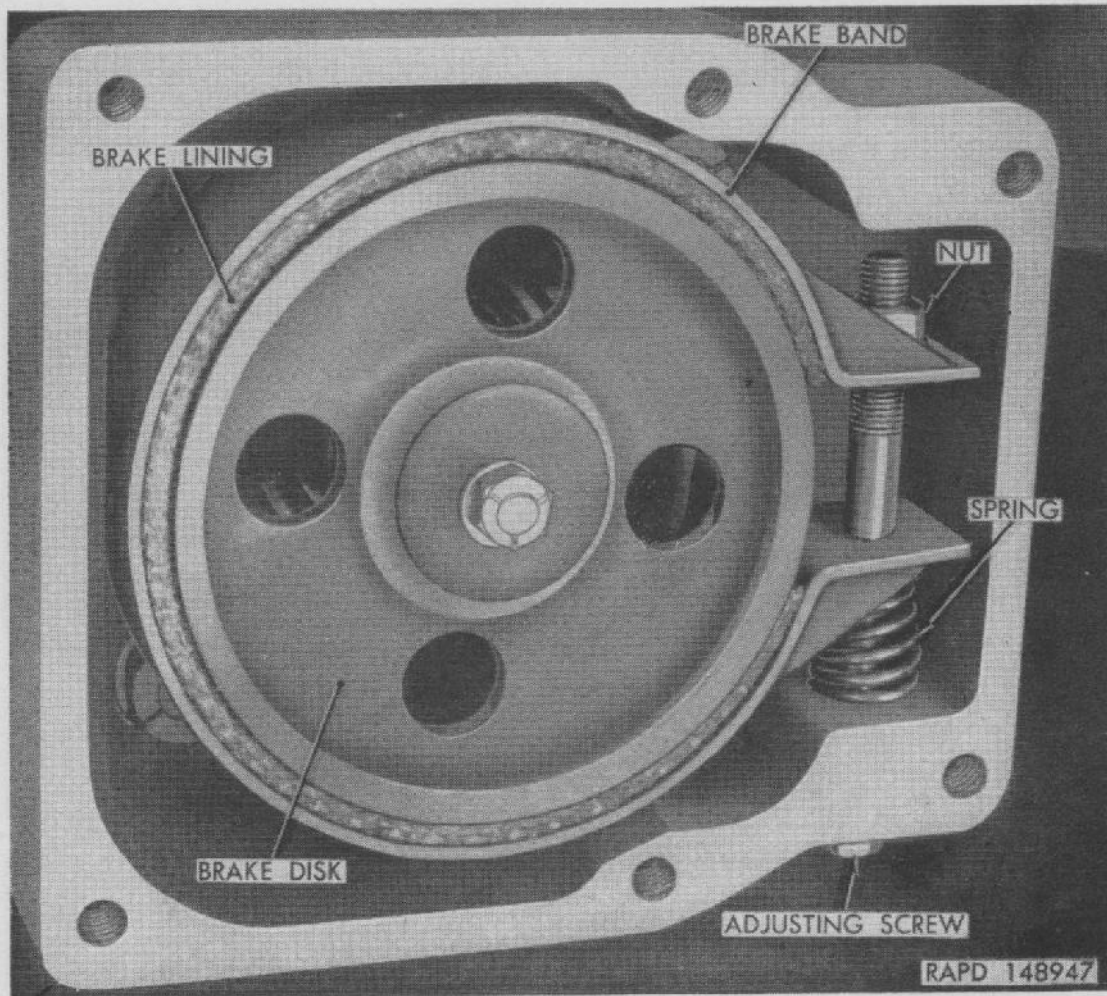

Figure 189. Automatic brake band installed.
- (1) Remove front bumper (par. 265*a*).
- (2) Remove six cap screws and lock washers which attach cover to case.
- (3) Remove adjusting screw, washer, and brake spring (fig. 189). Pull brake band from brake disk.
- (1) Position brake band on disk. Place washer on adjusting screw; then start screw through case. Position brake spring between case and lower leg of band (fig. 189); then insert screw through spring and both legs of band. Compress upper part of band with pry bar until screw engages nut.